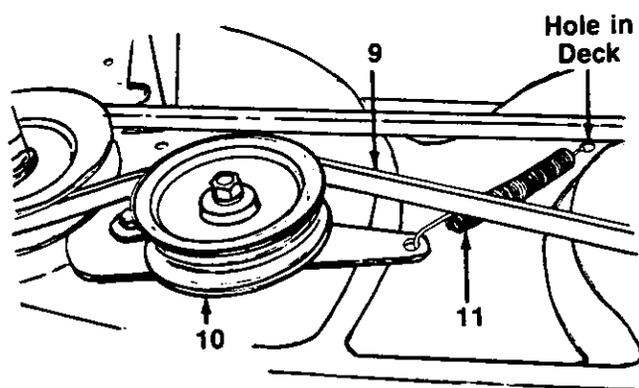

FIGURE 5.
11. Disconnect the spring on the idler bracket from the hole in the deck shown in figure 5. Slip the lower belt over the idler pulley. Roll the belt off the deck pulleys.
12. To replace the belts, first reattach the spring on the idler bracket to the hole in the deck. Work the lower belt over the two deck pulleys, and then around the idler pulley as shown in figure 5. To complete reassembly, follow steps 1 through 10 in reverse order.